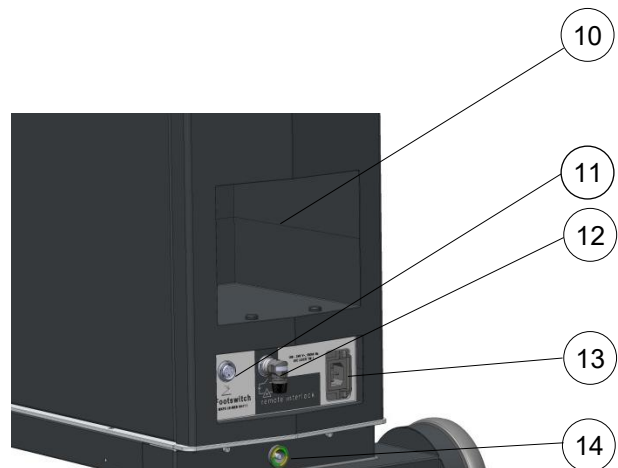

Fig. 3-2: Backside view
- To separate the ELIOS laser console from mains, disconnect the mains plug at the device (Fig. 3-2).
- The ELIOS laser console should be so arranged to enable the removal of the power supply plug on the device at all times (Fig. 3-2).
The foot switch must be plugged onto the connector for the foot switch (see Fig. 3-2). The foot switch is used to trigger the laser emission. Operation of the foot switch activates the laser emission. As soon as the foot switch is released, the laser emission is interrupted.
The ELIOS laser console is equipped with a connector for electrical potential equalization (see Fig. 3-2). The connection to an additional electrical potential equalization can be made by using a potential equalization cable.
The ELIOS laser console is equipped with a connector for a remote interlock, e.g. a door contact (see Fig. 3-2). If the contacts of the plug connector are open, then the laser emission is interrupted. Further information regarding the connection of a remote interlock to the ELIOS laser console can be obtained from MLase AG or from an authorized service partner.